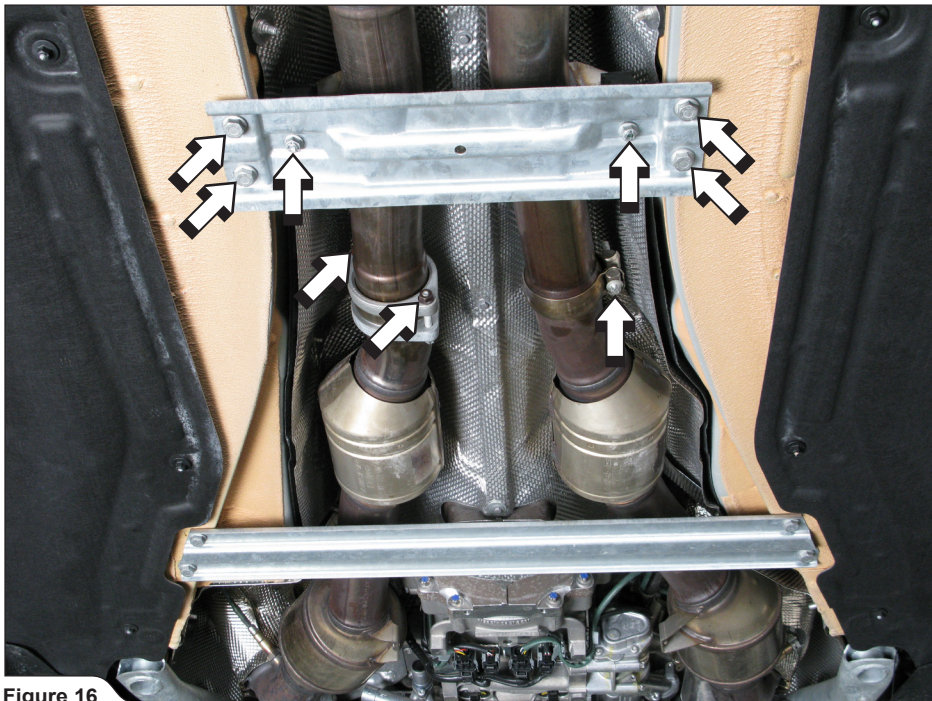

Figure 16
14. Unscrew marked nuts and bolts and remove exhaust bracket from the vehicle (**Figure 16**).
16. Unscrew the marked exhaust brackets' bolts on both sides and carefully remove exhaust off the vehicle (**Figure 16**).